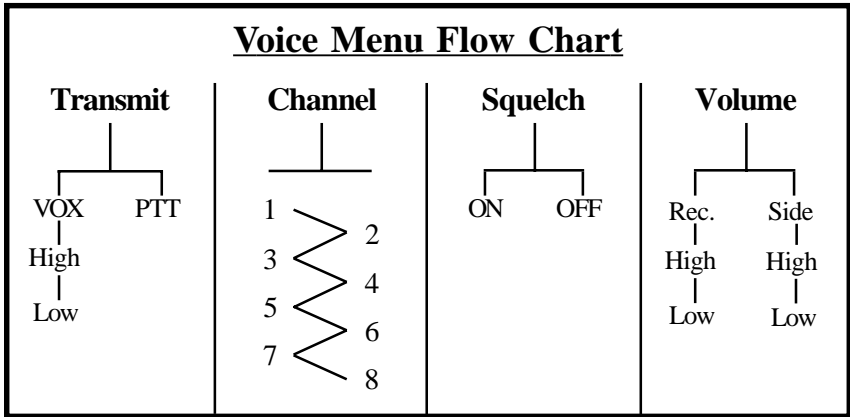

Figure 3
3.3.1 Voice Adjustment Mode: The SSB-1001B and SSB-2010 have a unique feature that allows you to adjust the unit electronically either out of or in the water. If you depress the PTT button two times within one second, the transceiver enters a "Voice Adjustment Mode." You will hear in your earphones a voice offering you the following choices: *"Transmit, Channel, Squelch, Volume."* This message will continue until you make a selection by depressing the PTT button once when you hear your desired option. When you have completed your adjustments, you have the option to double- or triple-depress the PTT button quickly. A double click will take you directly out of the "Voice Adjustment Mode." Your transceiver will be in the receive mode. A triple click will tell the transceiver to play back all settings in your earphone. You can triple-click at any time if you want to know all your settings (Figure 3).